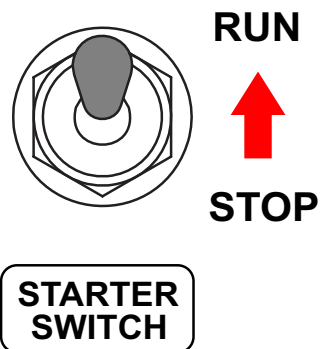

Figure 28. Starter Switch (RUN Position)
- Place the “Starter Switch” (Figure 28) in the **RUN** position.